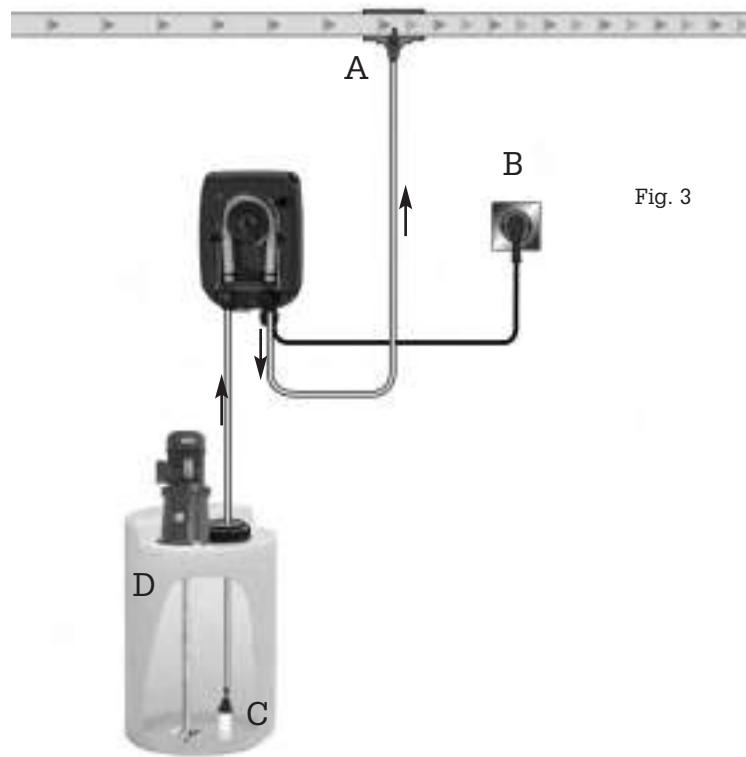

Fig. 3
2.5 - SCHEMA DI IMPIANTO TIPICO (Fig. 3)